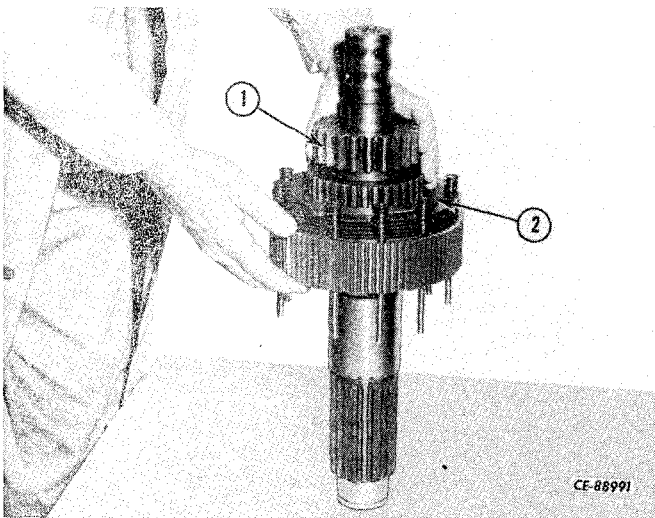

Figure 4-127
Position the inner roller bearings and spacer in the 3rd speed drive gear (1, Fig. 4-127). Install the gear so it indexes with all the bronze discs (2).